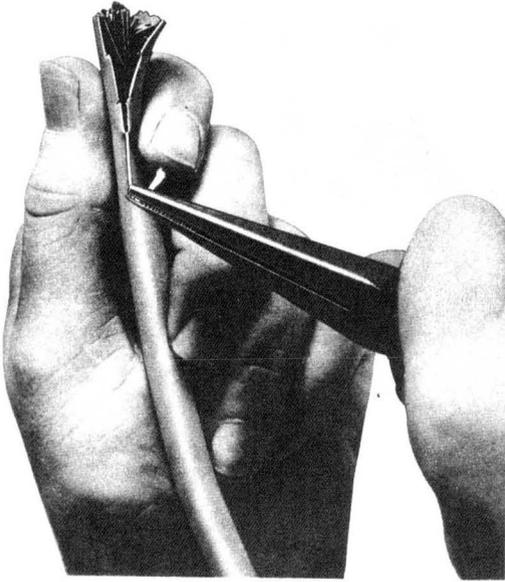

Fig. 5—Stripping D Inside Wiring Cable or G and H Station Wire (With Jacket-Slitting Cord)
- (1) Slit end of jacket with diagonal pliers for approximately 1 inch.
- (2) Locate jacket-slitting nylon cord under jacket.
- (3) Grasp cable firmly in one hand and, using long-nose pliers, pull nylon cord through cable jacket to the desired stripped length (Fig. 5).
- (3) Grasp wire firmly in one hand and, using long-nose pliers, pull nylon cord through jacket to the desired stripping length (Fig. 5 and 6).